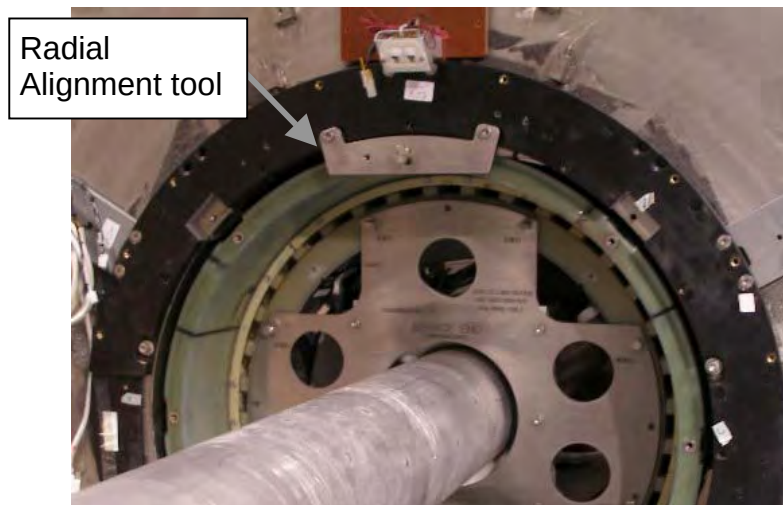

Figure 57 – Lowering the XRMB with the Radial Alignment Tool attached
- w. Keep the Radial Alignment Tool attached and secured during this step. **(Fig 57)**